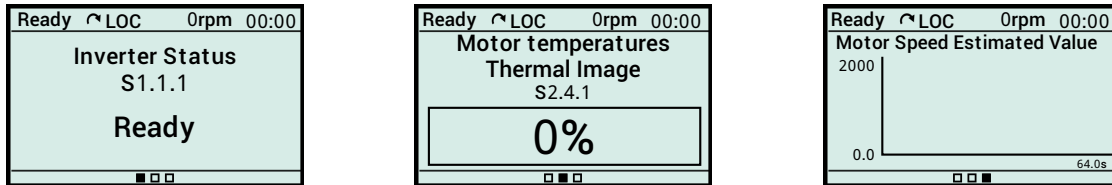

Figure 8.13: View in (a) text, (b) bar and (c) graphic.
- Full screen:** It covers an entire main screen and allows viewing reading variables in the format **text, bar or graphic**. Figure 8.13 shows a view example.